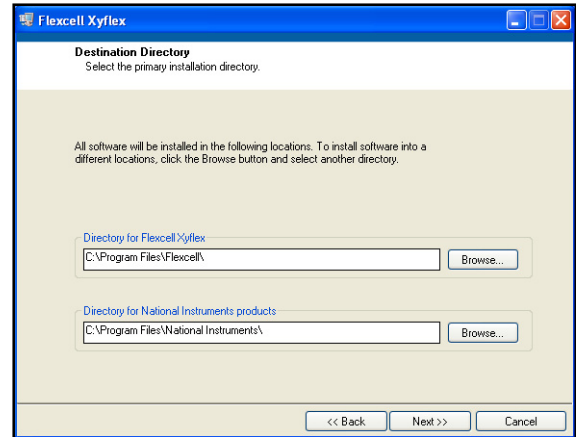

Figure 2. Destination directory.
4. Select the destination directory to save all program files (Fig. 2) and click *NEXT* to continue.